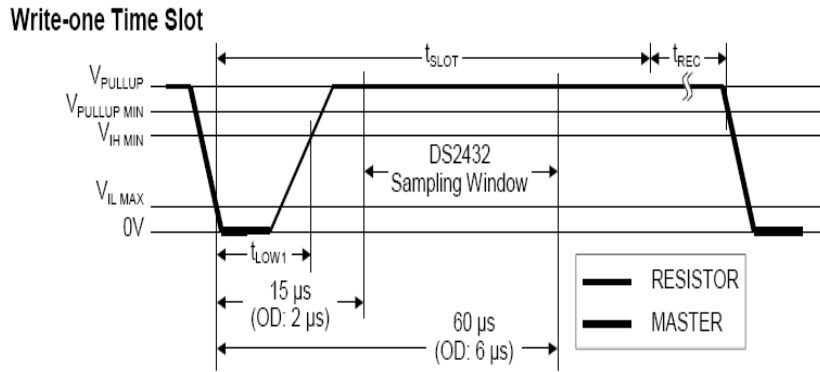

Fig4-102 - Write-one Time Slot
- B. Write 1: If the sampling is high, 1 is generated (note: Read 1 is of a similar wave form pattern) as in Fig4-102: